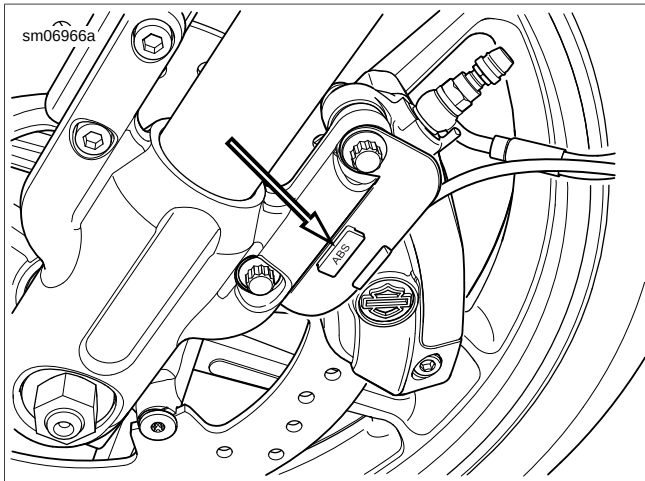

Figure 2-51. Front Wheel Speed Sensor Cable Clip (ABS Equipped)
3. **ABS Models:** See Figure 2-51. Release front wheel speed sensor cable from clip.